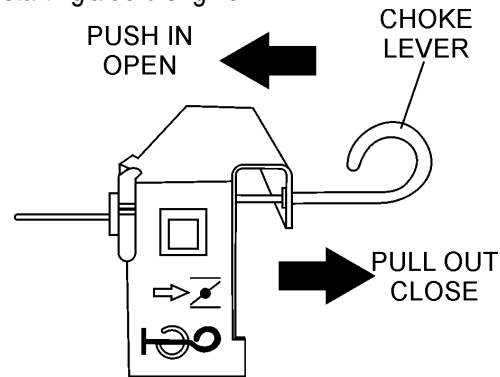

Figure 13. Choke Lever
2. Place the **choke lever** (Figure 13) in the "CLOSED" position if starting a **cold** engine.
3. Place the **choke lever** (Figure 13) in the "OPEN" position if starting a **warm engine** or the **temperature is warm**.
- If the engine has started, slowly return the choke lever (Figure 13) to the "**OPEN**" position. If the engine has not started repeat steps 1 through 5.